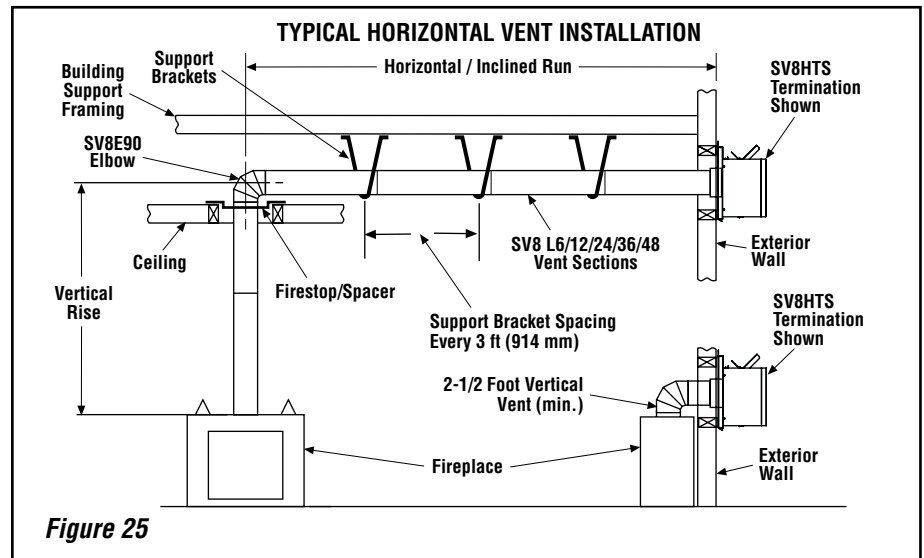

Figure 25
Figures 25, 28, 29 and 30 on Pages 15, 17 and 18 and their associated Horizontal Vent Table illustrate the various horizontal venting configurations that are possible for use with these appliances. A Horizontal Vent Table summarizes each system's minimum and maximum vertical and horizontal length values that can be used to design and install the vent components in a variety of applications.
I. Continue installation of horizontal/inclined sections - Continue with the installation of the straight vent sections in horizontal/inclined run as described in **Step E**. Install support straps every 3 feet (914 mm) along horizontal/inclined vent runs using conventional plumber's tape. See **Figure 25**, it is very important that the horizontal/inclined run be maintained in a straight (no dips) and recommended to be in a slightly elevated plane, in a direction away from the fireplace of 1/4" rise per foot (20 mm per meter) which is ideal, though rise per foot run ratios that are smaller are acceptable all the way down to at or near level. Use a carpenter's level to measure from a constant surface and adjust the support straps as necessary.